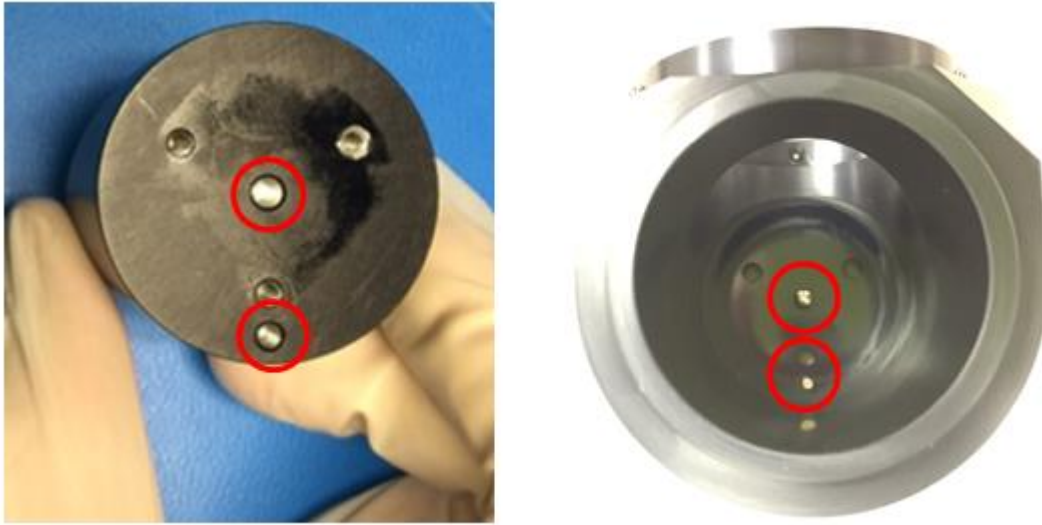

Figure 1: Bottom surface of the OAP mirror and interior wall of OAP mirror mount.
1. Locate the 50331AU OAP mirror and the OAP mirror mount. On the bottom surface of the OAP mirror there is a hole pattern consisting of three 4-40 screw holes and two un-threaded holes. On an interior wall of the OAP mirror mount, there are two protruding pegs that correspond to the un-threaded holes on the bottom of the OAP mirror. These holes and pegs are circled in red in Figure 1.